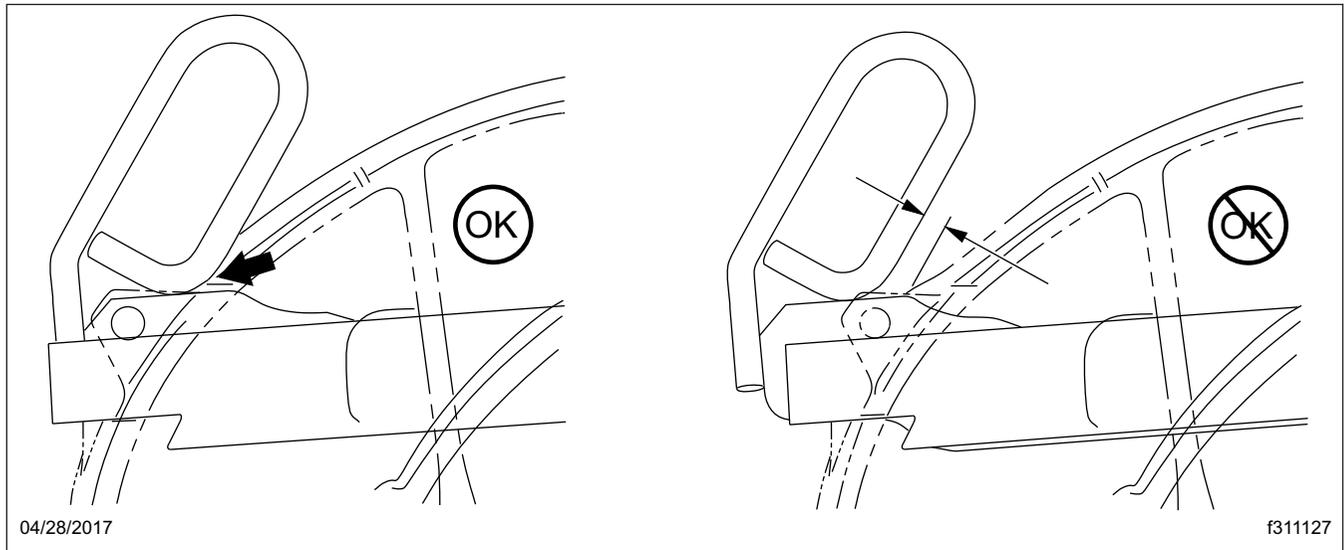

Fig. 20.7, Jost Release Handle Locked
11. Ensure that the release handle is in the locked position adjacent to the casting. See Fig. 20.7.